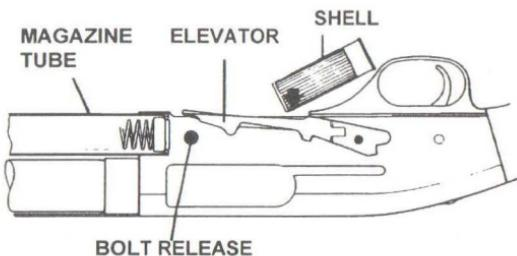

Fig. 9
**TO LOAD MAGAZINE** -- With the safety button fully rearward in the "ON" (SAFE) position and the bolt in the forward or closed position, hold the shotgun with the bottom of the receiver facing upward. Press the bolt release as shown in Figure 9.